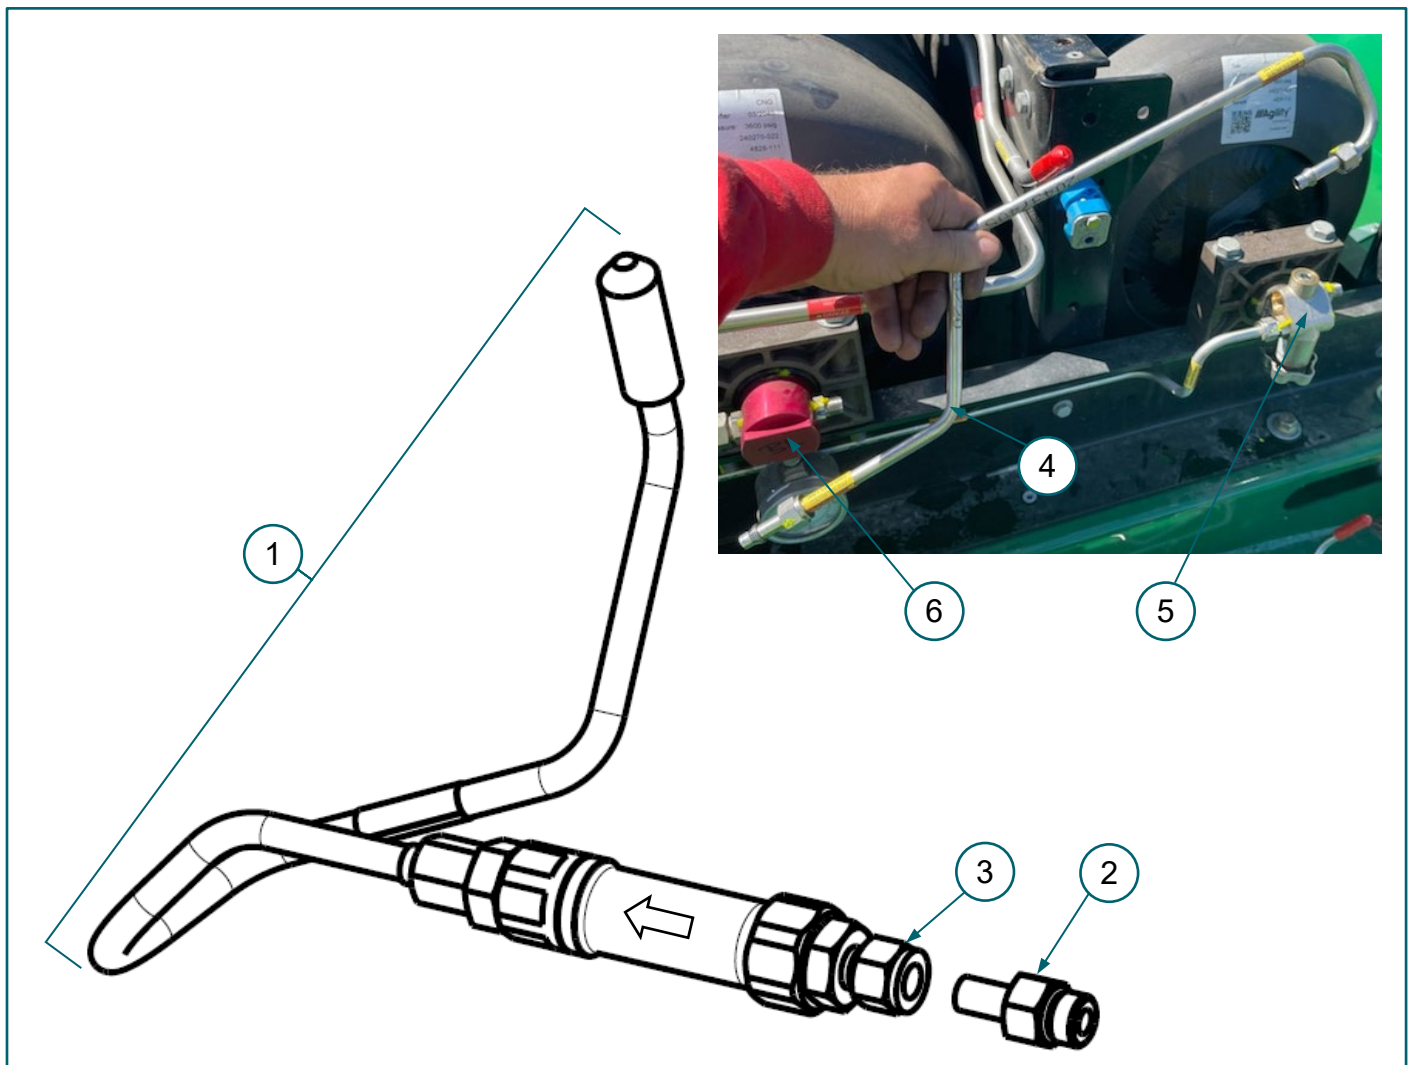
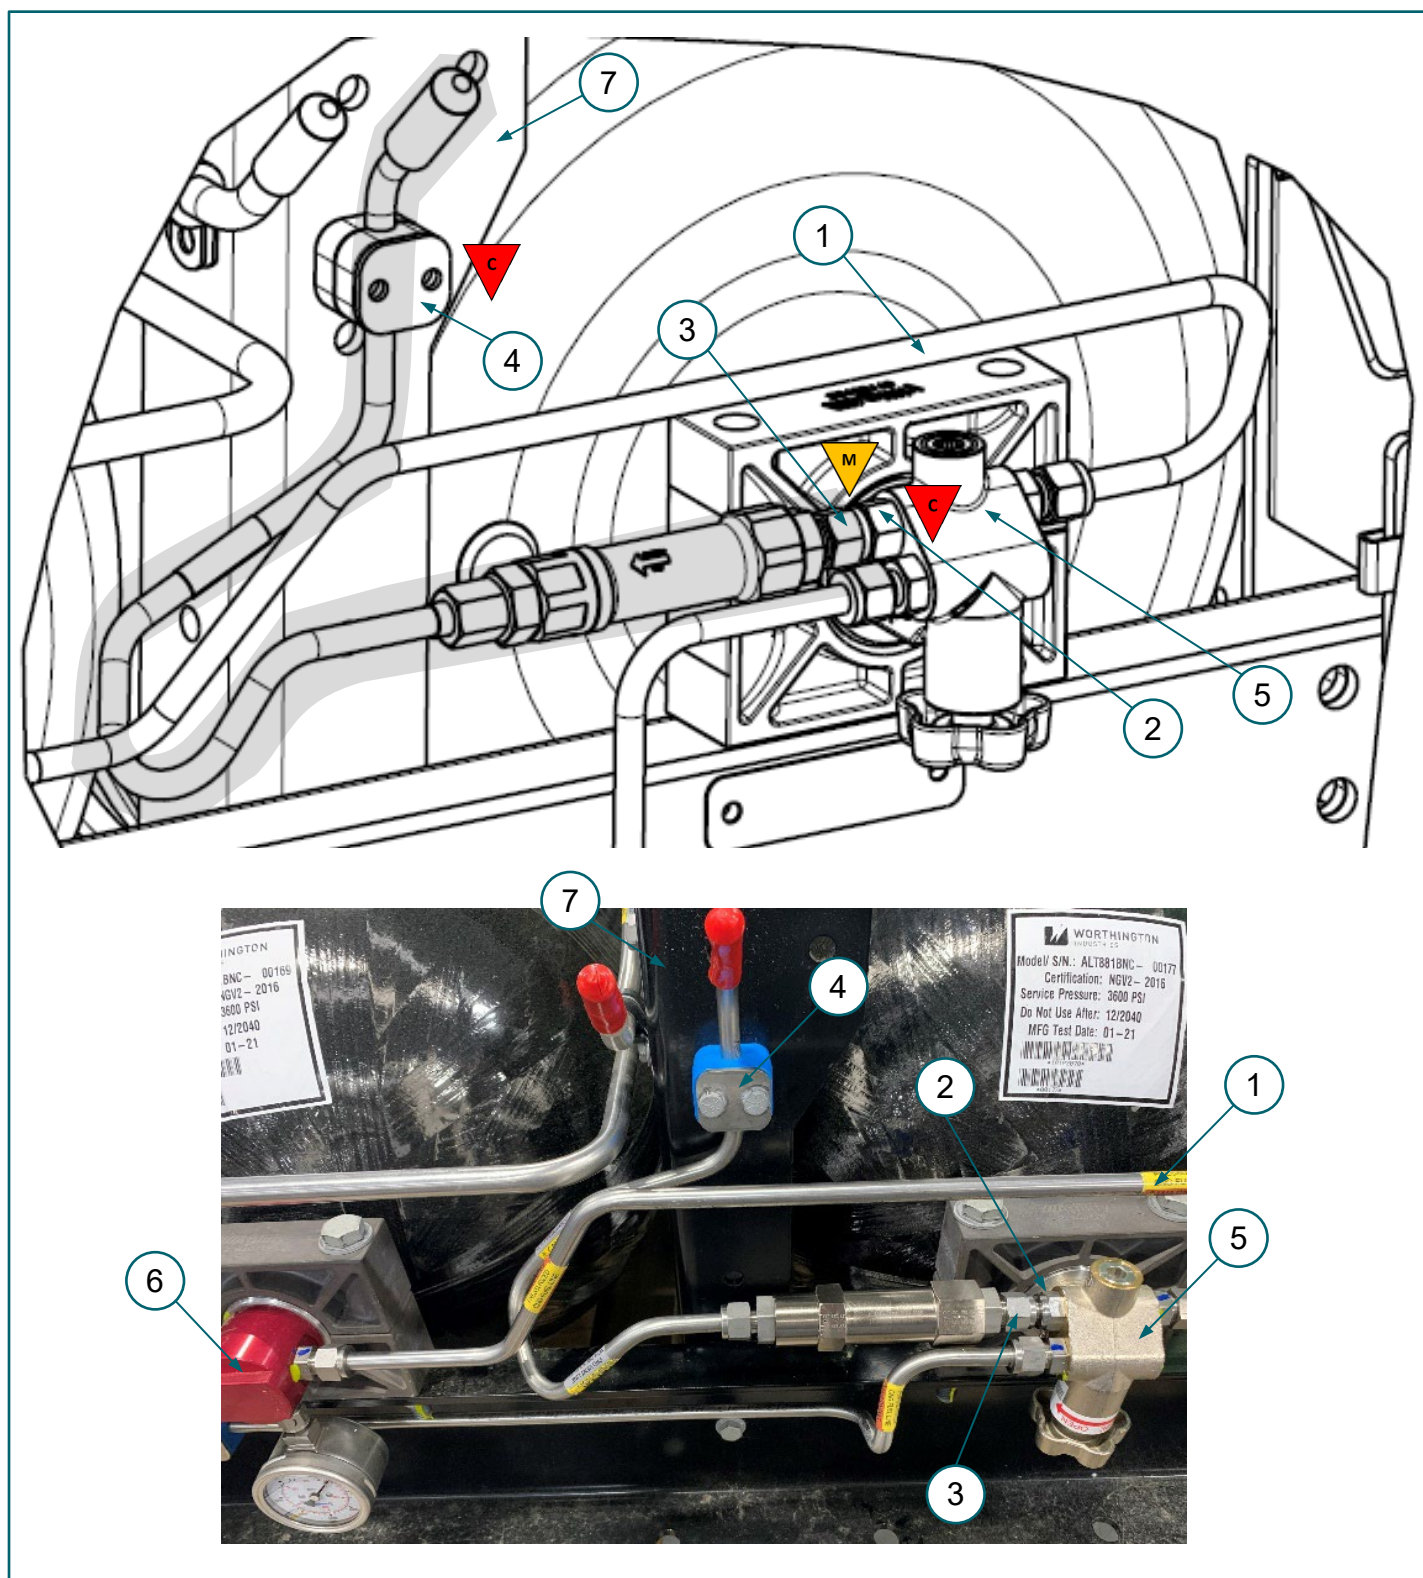

FIGURE 7. Right PRD vent tube assembly and male adapter fitting
FIGURE 8: Right cylinder valve plumbing after installation of left PRD vent tube assembly and live PRD tube
17. Install (2) male adapter fitting, p/n 10200236, from retrofit kit on (5) right cylinder valve. **FIGURE 7**
18. Use a 11/16-in wrench to install male connector fitting, p/n 10200063, of (1) right PRD vent tube assembly while using a 5/8-in wrench to hold (2) male tube adapter, p/n 10200236. **FIGURE 7** and **FIGURE 8**
19. Install (1) live PRD tube, p/n 20437408, from retrofit kit on (5) right cylinder valve and (6) right manifold. **FIGURE 7** and **FIGURE 8**
20. Use a 7/16-in socket and 7/16-in wrench to secure (*shaded*) right PRD vent tube assembly to (7) structure using (4) tube clamp and fasteners. **FIGURE 8**